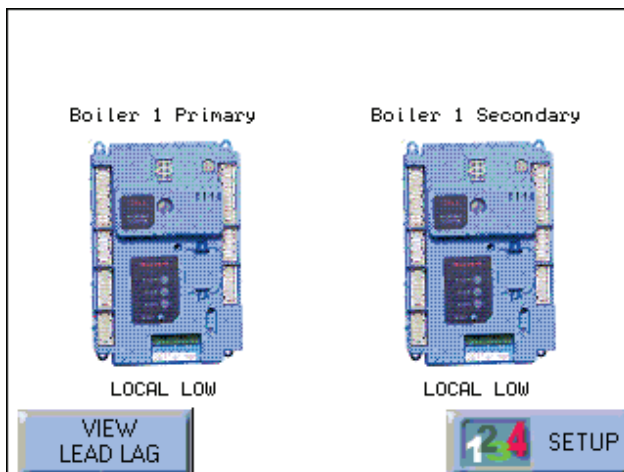

Fig. 125 – Home Screen
1. To view the Lockout history, start at the Home screen (Fig. 125). Press the icon for the controller you want to check. In this example, we will press the icon on the left.